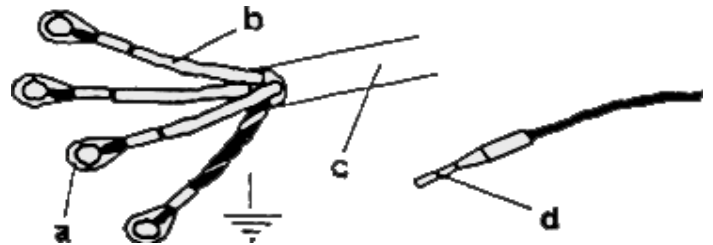

Figure 8
- Connect the conductors (b) of the mains supply wires (c) using the cable lug (a) and the thermistor connection using the ring (d). (Figure 8)